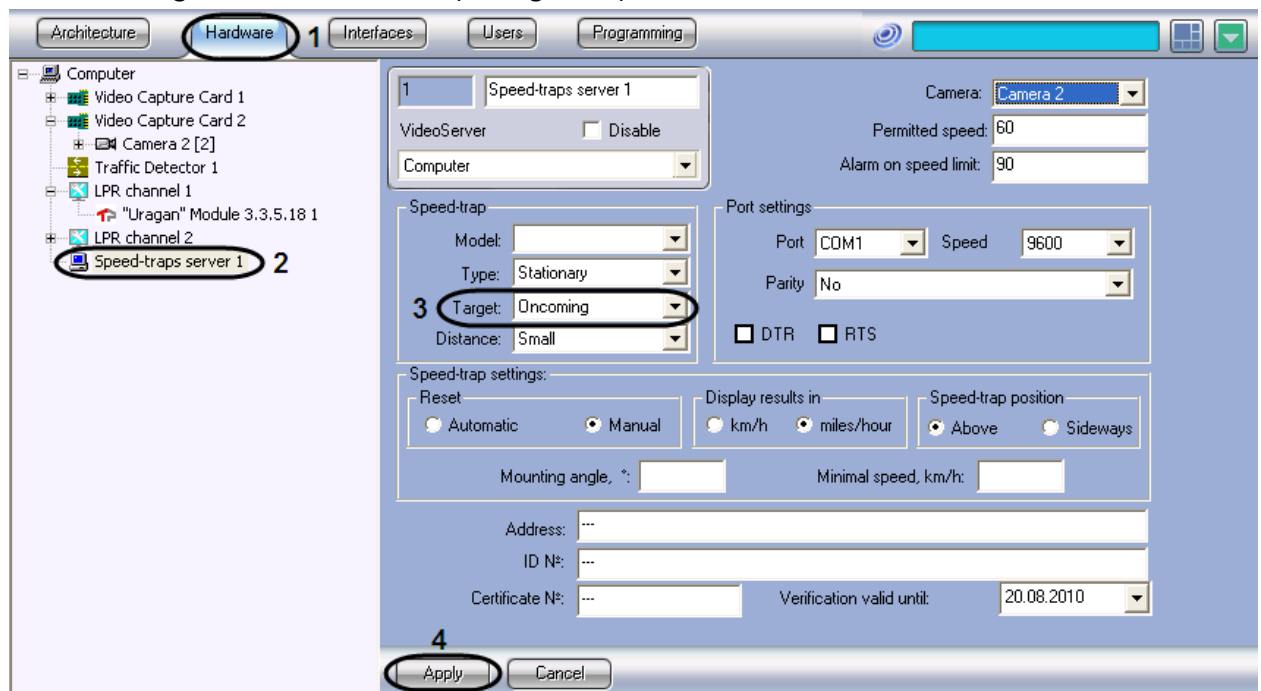

Fig. 7.3-6 Selecting the vehicle movement direction relative to the speed-trap
2. In the object tree on the left side of the Hardware tab, select the Speed-trap server object representing the Radar module to be set up. The settings panel of the selected object will open on the right side of the window (see Fig. 7.3-6).